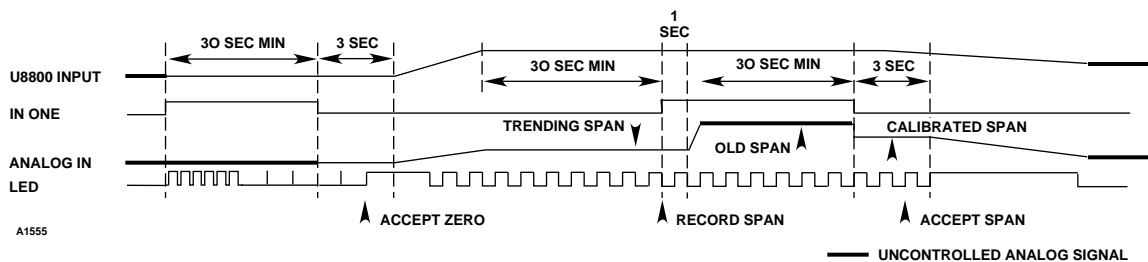

Figure 30—Calibration Algorithm "B"
1. Hold the mode select button on the side of the transmitter enclosure for about 10 seconds. (See Figure 30.) The transmitter cycles through the set-points and the display starts to blink. Release the mode select button. Input 1 on the communication module goes active. The red LED on the communication module blinks at a 2 Hz rate for 3 seconds while input 1 is active.